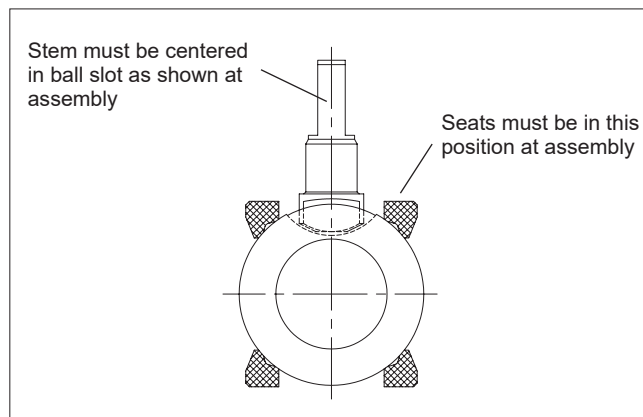

Fig. 2 Proper Seat and Ball Orientation
3. Carefully clean and polish the ball (3) sealing surface: It should be free of all scratches and grooves.
5. With the body cap side facing up, slide one valve seat (7) sideways into the body (1) to below the stem bore, and tilt it into place so that the proper surface (see **Figure 2**) will be adjacent to the ball (3), being careful not to cut or scratch the seat.
11. Place a bonnet stud nut (18) on each bonnet stud (14) and tighten nuts alternately so that the compression plate (20) remains parallel with the body bonnet. Tighten the bonnet stud nuts "finger-tight", then tighten an additional ¼ turn.
12. Insert internal grounding spring (36) into hole at the bottom of the stem (5). Insert the ball (3) rotating it onto the stem (5) in the closed position. If necessary, turn the stem blade to align with the ball slot. Make certain that the stem blade is in the middle of the ball slot; i.e. equal distance from the ends of the slot. Rotate the ball if necessary (see **Figure 2**).
13. Gently place the body gasket (65) into the machined recess of the body (1).
14. Place the second seat (7) on top of the ball (3) with the proper surface adjacent to the ball.